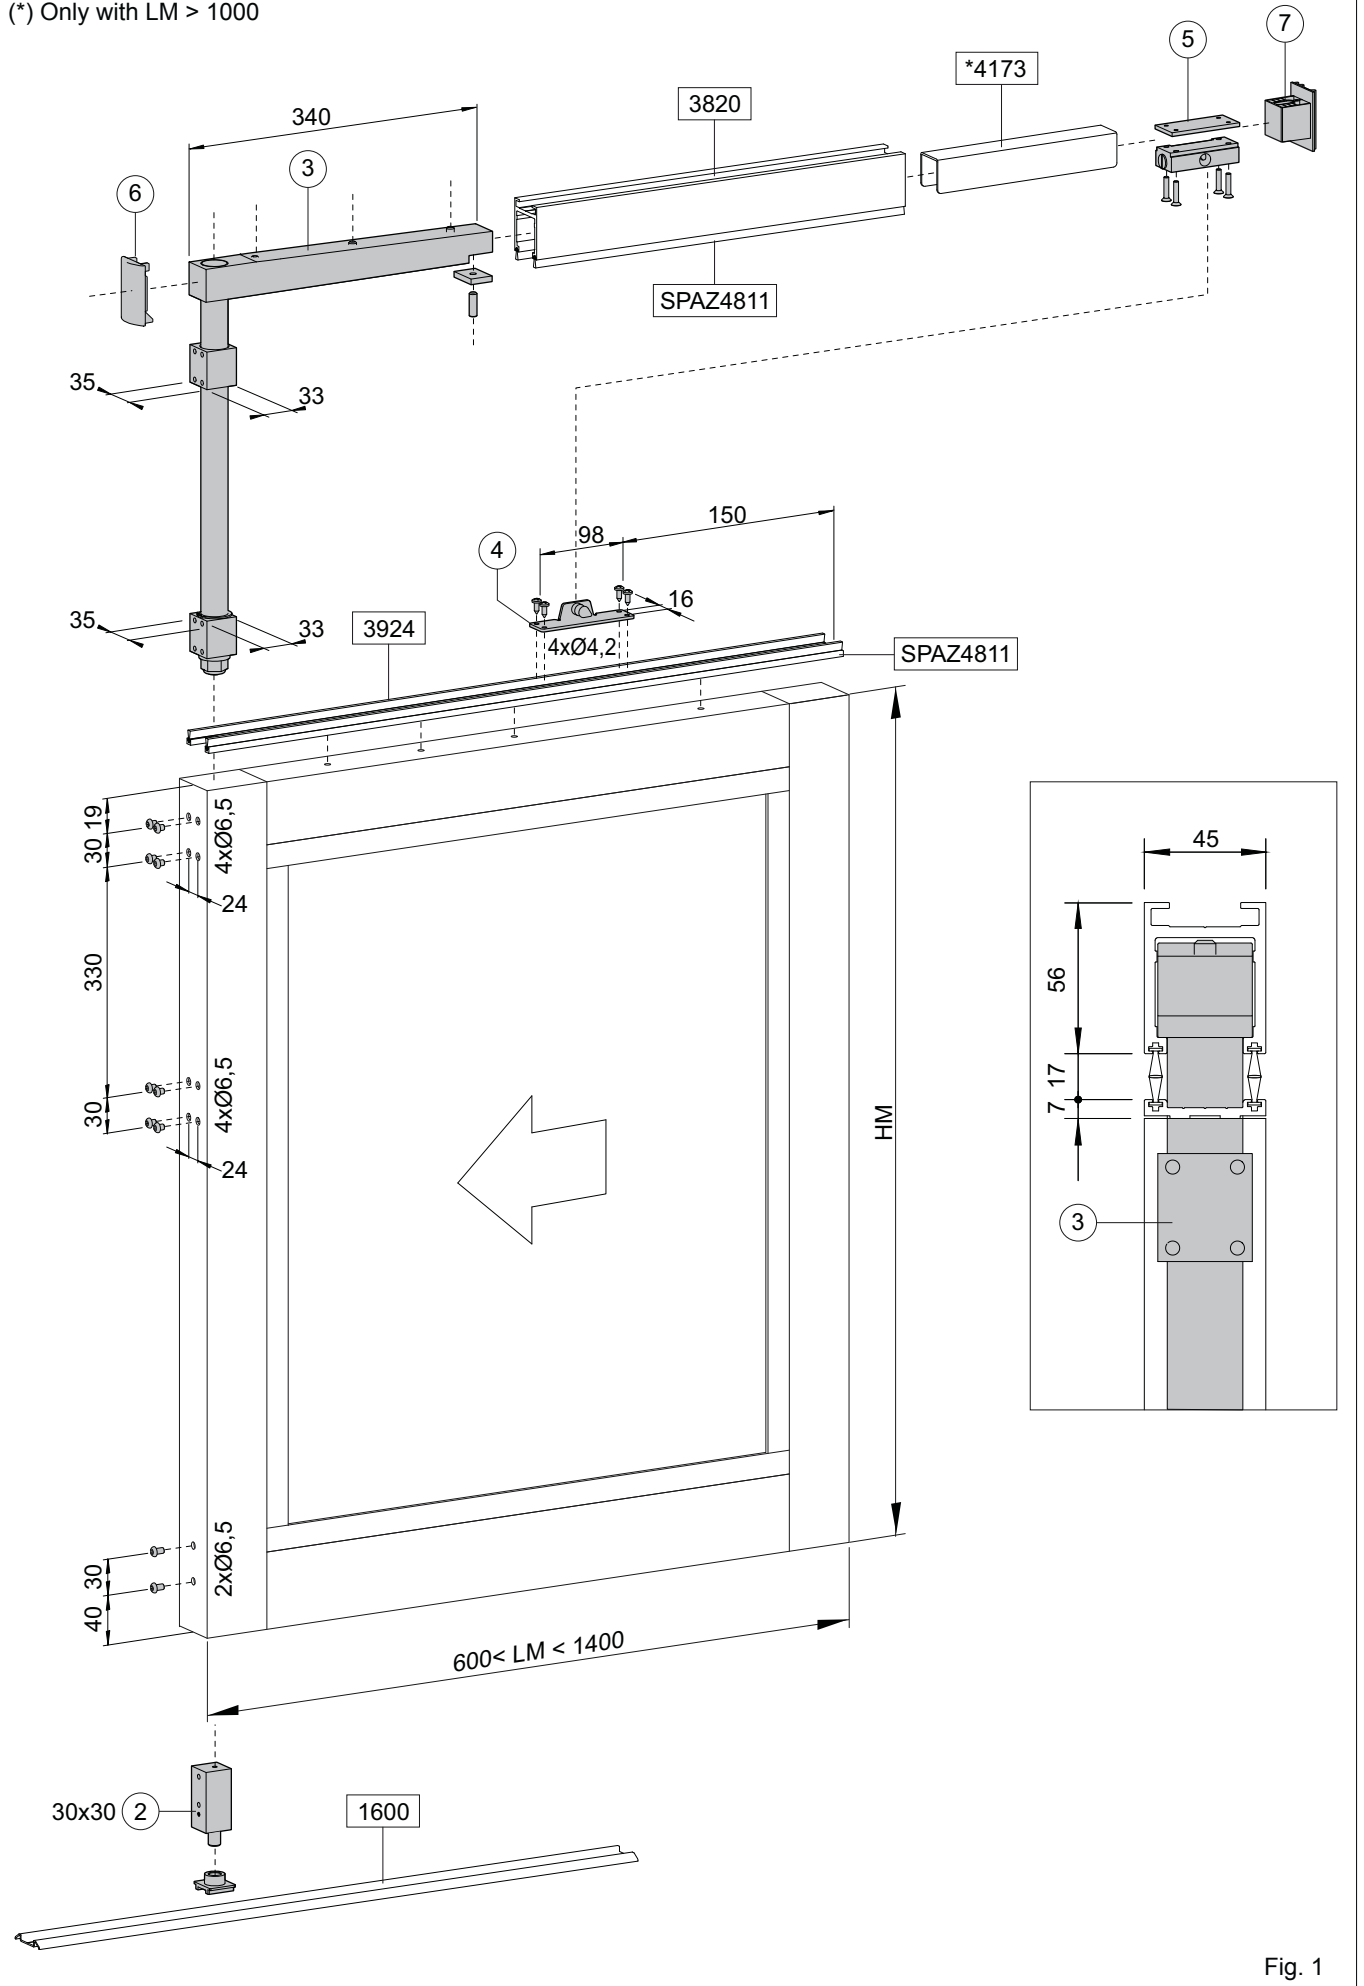

Fig. 1
If the width of the mobile panic wing (LM) is greater than 1000 mm, add reinforcement 4173 (see fig. 1)